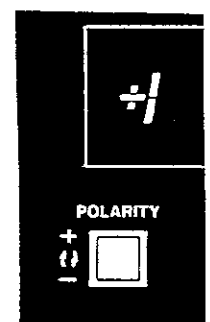

Fig. 6 Setting Polarity
(4) Polarity
Press the polarity switch (Fig. 6) to reverse the polarity presently indicated in the display (9). (Polarity is indicated by the + or - sign preceding